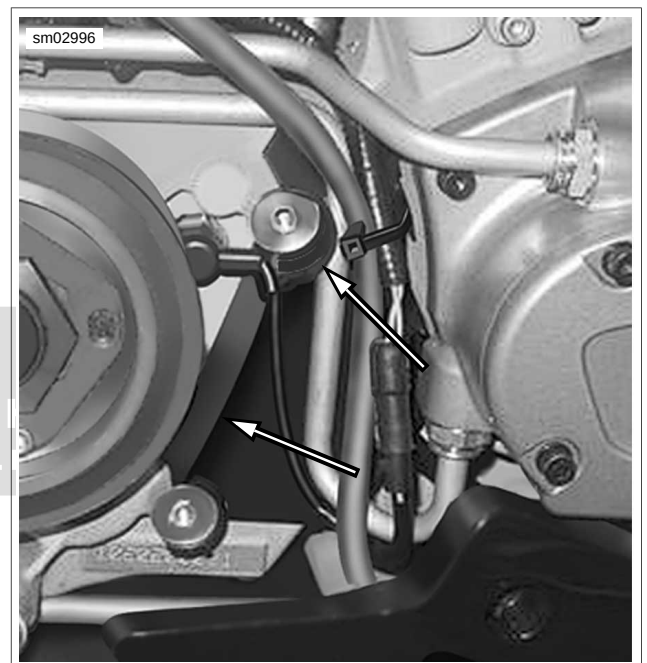

Figure 3-21. Wire Guard
- See Figure 3-21. Wire guard located under the sprocket cover.